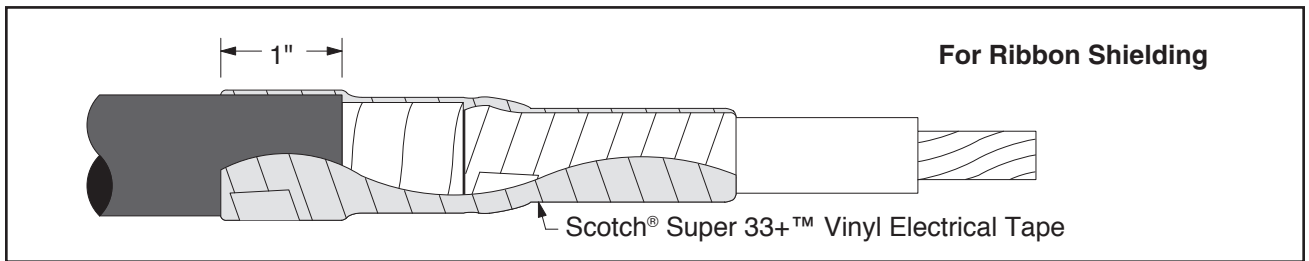

Figure 9a
6.2 Wrap two half-lapped layers of vinyl tape over the Scotch® Stress Control Tape 2220 and one inch onto cable jacket. (1/2" beyond cut off, bent back shield wires for wire and UniShield® cables. *Figures 9a, 9b or 9c,* depending on type of cable shielding).